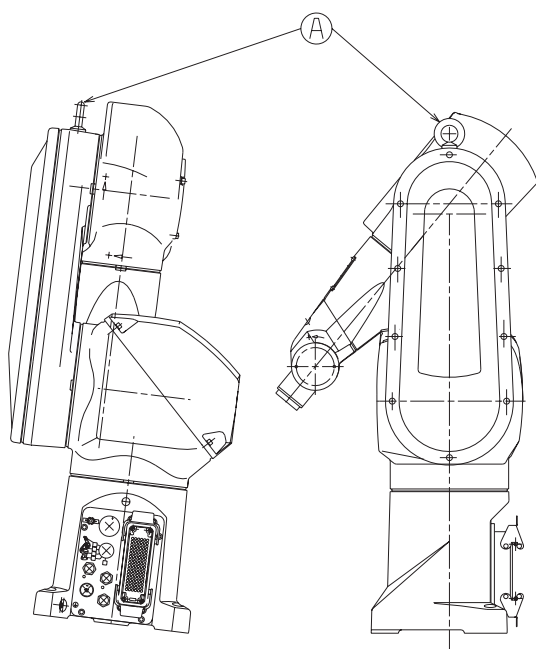

Figure 4.2
- Put the arm in the position shown in **figure 4.2** after having released the brake.